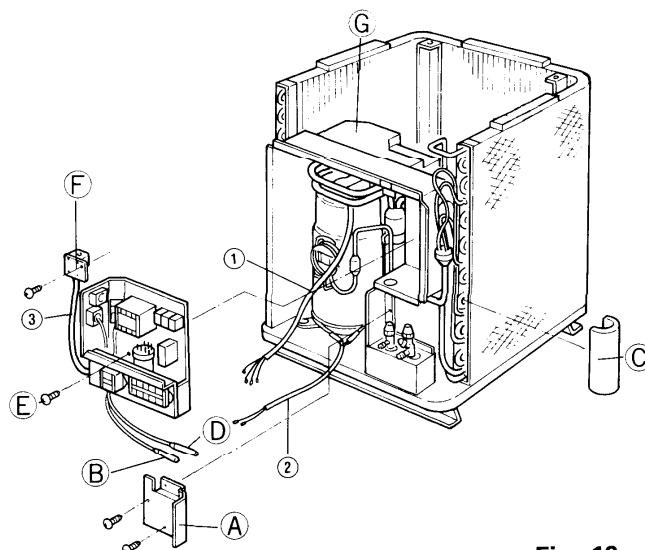

Fig. 19
- 2 ) (1) Remove the cover plate (A) and remove the fixed sensor (B).
(2) Remove the insulation (C), loosen the fitting fixing the sensor (D), and remove the sensor.
- 3 ) After completion of the above work, remove the screw (E) and then remove the electrical component box.
- 4 ) Loosen the screw of the mounting plate (F) fixing the solenoid valve and remove the cover (G). Fig. 19